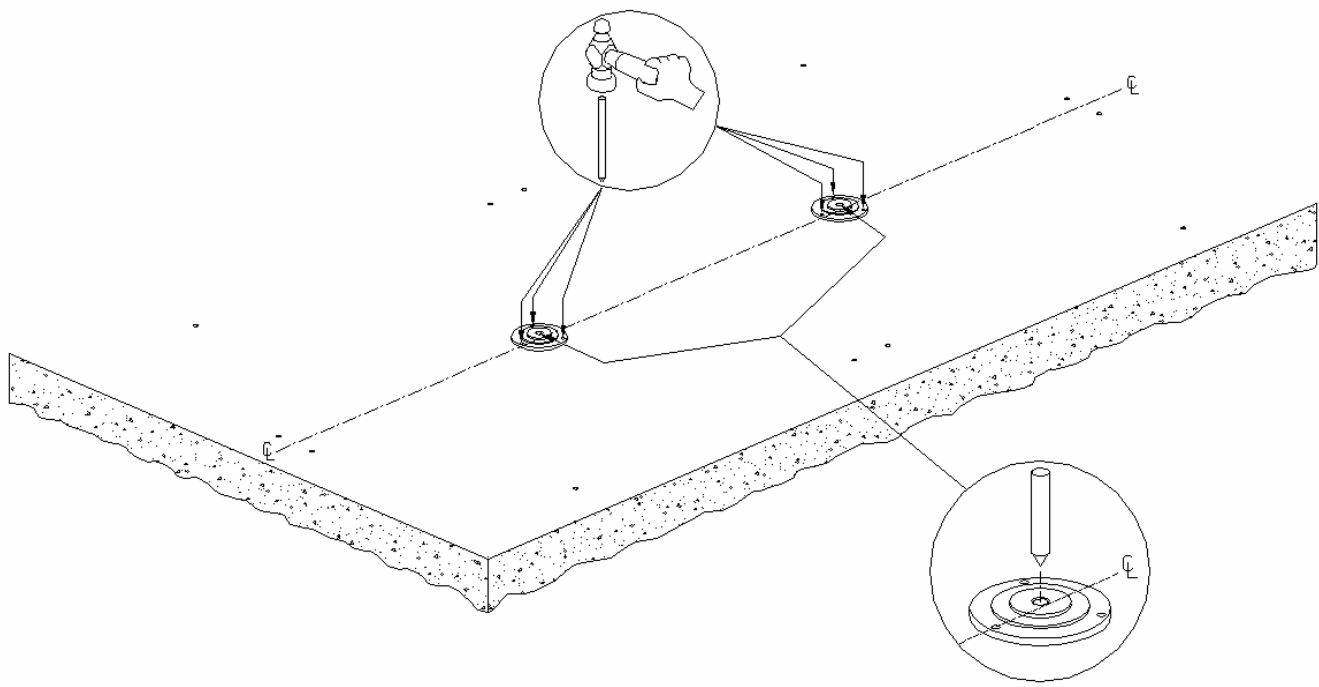

Figure 5
- 7. Locate the position for the bottom plates by centering the holes with the mark made in #6 above. Rotate the bottom plates so that one of the three mounting holes also aligns with the center line reference for the middle of the left side shield assembly. Firmly holding the bottom plate mark three 1/2" holes with the 1/2" center punch to the floor. See Figure 5.